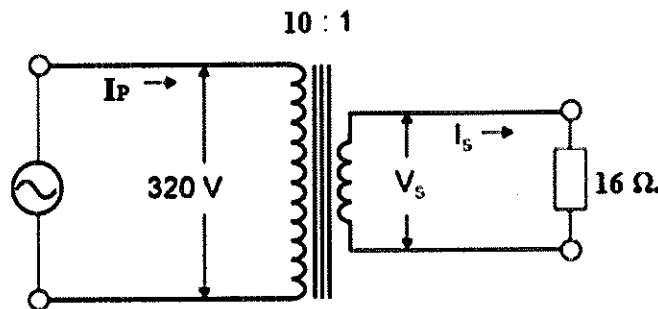

Fig. 2.
- a- A 16 ohms resistive load is connected to a 10:1 ideal transformer as shown in the Fig. 2. Calculate the following: